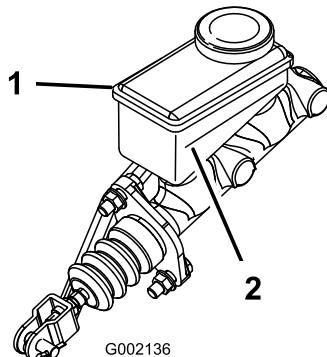

Figure 18
3. Look at the outline of the fluid level at the side of the reservoir. (Figure 18).
- B. Add DOT 3 brake fluid to the reservoir until the fluid level is above the Minimum line (Figure 18).
5. Install the rubber plug in top of the dash (Figure 18).